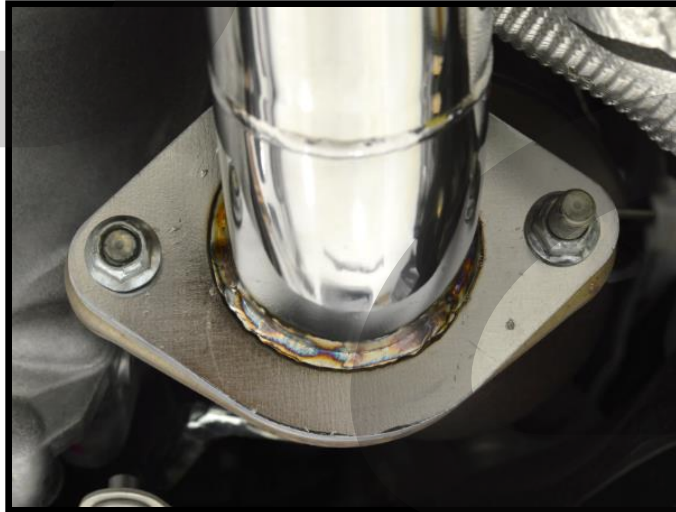

Figure 3d
- d) **Install the assembled CorkSport mid-section.** Spray a small amount of silicone or white lithium grease on the end of the exhaust hanger rod on the CS exhaust for easier installation. Install the large flange to the OEM exhaust manifold with the two OEM 14mm nuts. Snug but do not fully tighten yet. Install the hanger rod into the rubber hanger. **See Figure 3d.**